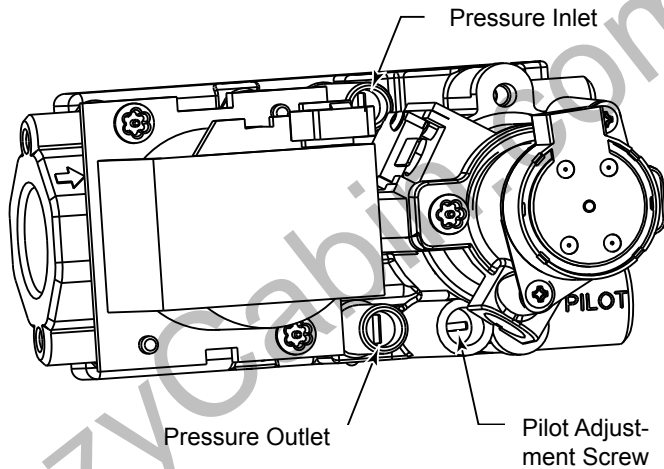

Figure 51 - Signature Command Valve
4. To check gas pressures at valve, turn captured screw counter clockwise 2 or 3 turns and then place tubing to pressure gauge over test point. Turn unit to high. *Figure 51.* After taking pressure reading, be sure and turn captured screw clockwise firmly to reseal. Do not over torque. Check test points for gas leaks.